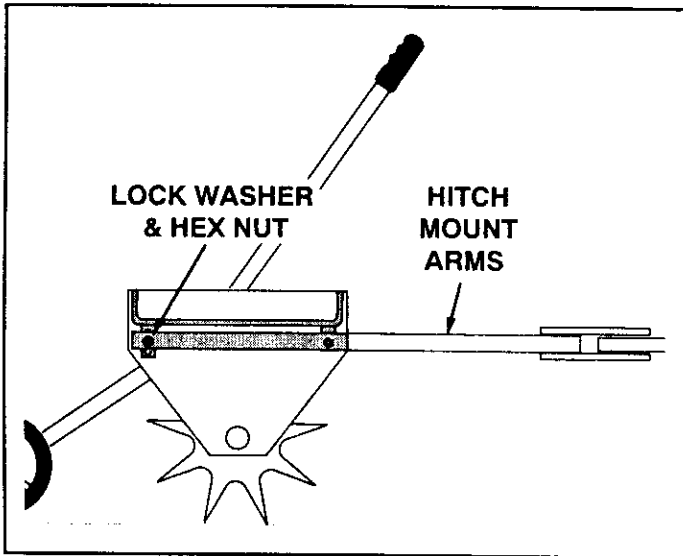

FIGURE 10
- To level the spike tray after the aerator is attached to the tractor hitch, loosen the lock washers and hex nuts holding the hitch mount arms to the brackets at the rear of the tray. Make the tray as level as possible and then retighten the nuts. See figure 10.